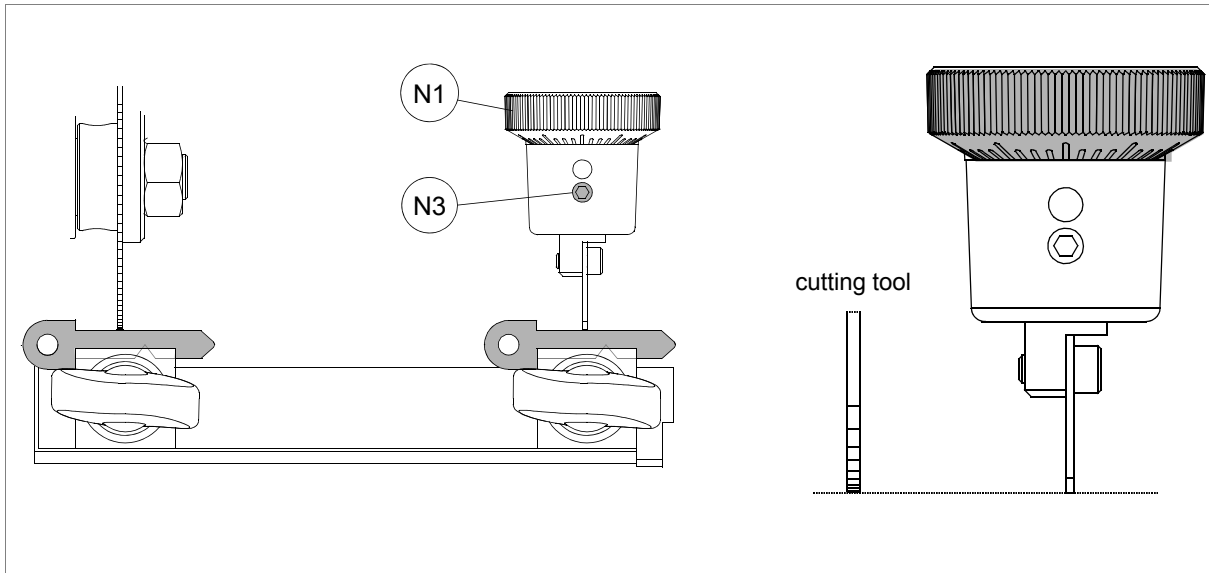

Fig. 22
- 2) Place the adjusting keys on the clamps (fig. 22) on the 2nd side (for mail box keys) - fig. 40);
- 3) Lock the clamps in the horizontal position by means of the pin (L);
- 4) Raise the carriage and take the adjusting keys into contact with the tracer point and cutting tool (fig. 22).